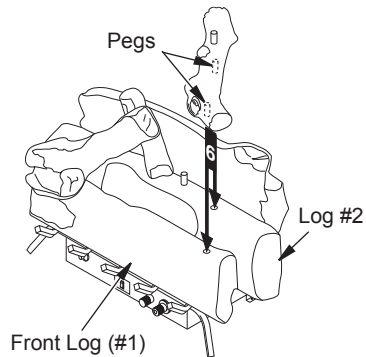

Figure 30 - Installing Crossover Log (#6)
6. Locate pegs on the bottom of crossover log (#6). Slide these pegs into the holes located in middle log (#2) and front log (#1). See Figure 30.